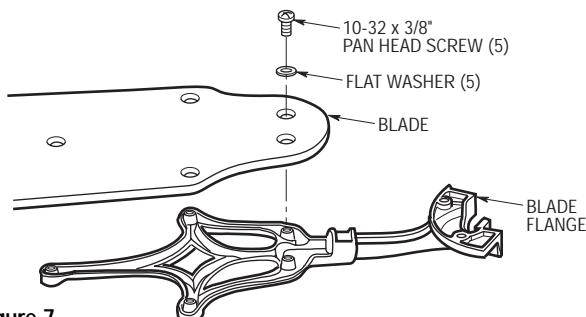

Figure 7
11. Use five 10-32 x 3/8" pan head screws and flat washers (supplied) to secure the flange to the blade (Figure 7). Repeat for the remaining blade(s).